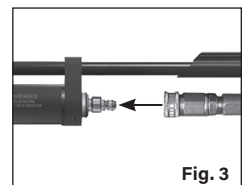

Fig. 3
4. Attach the quick disconnect fitting from your filling equipment to the fill nipple on the airgun (Fig. 3).